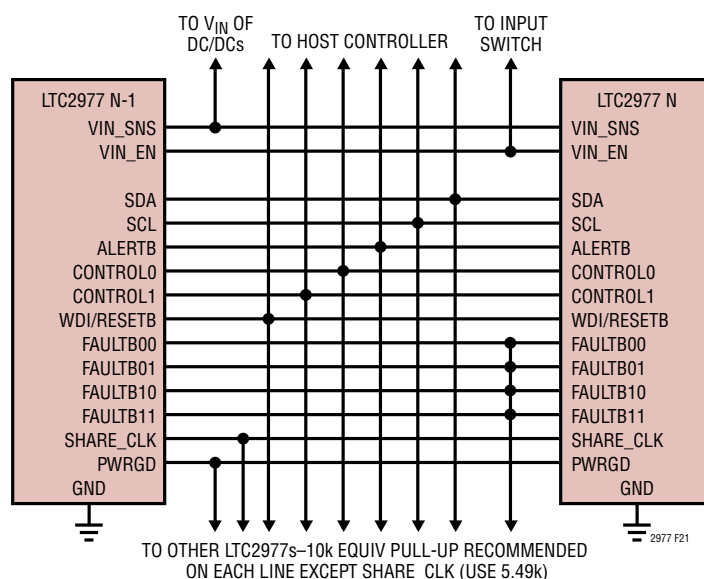

Figure 21. Typical Connections Between Multiple LTC2977s
Figure 21 shows how to interconnect the pins in a typical multi-LTC2977 array.
- The FAULTBzn lines can be connected together to create fault dependencies. Figure 21 shows a configuration where a fault on any FAULTBzn will pull all others low. This is useful for arrays where it is desired to abort a start-up sequence in the event any channel does not come up (see Figure 22).
- PWRGD reflects the status of the outputs that are mapped to it by the MFR\_PWRGD\_EN command. Figure 21 shows all the PWRGD pins connected together, but any combination may be used.